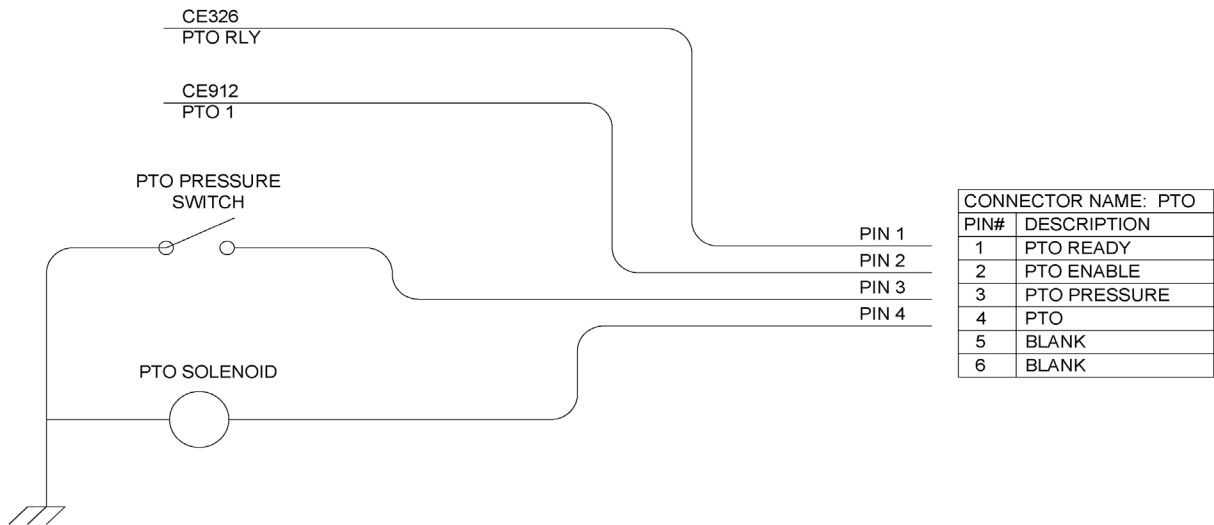

Figure 7 - PTO Activation Circuit
- Route the section of chassis harness (P/N: 475300353) with connector labeled "PTO" through the chassis firewall into cab and plug into housing defined in Figure 7.